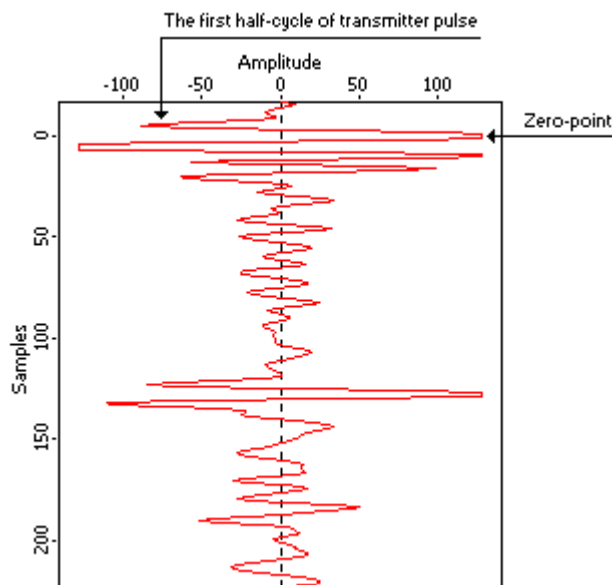

Fig. 4.1. Trace display example.
4. **Zero point:** Trace sample corresponding to the time of transmitter's maximum emission. It is this very sample that has zero number on the scale along the traces, i.e. reflected signal's delay time should be counted from this sample. As mentioned above, the transmitter's pulse is approximately a one-and-a-half-period (i.e. three-lobe) signal. Therefore, zero point should be set to the *second* lobe of the transmitter's pulse. The **Zero point** setting procedure is described in Section 10 of the present User's Manual. It is a rather important parameter which must be considered when measuring the time delays of signals to determine target's depth in the sounding medium. Zero point location examples are shown in Figs. 4.1, 4.2, 4.3.